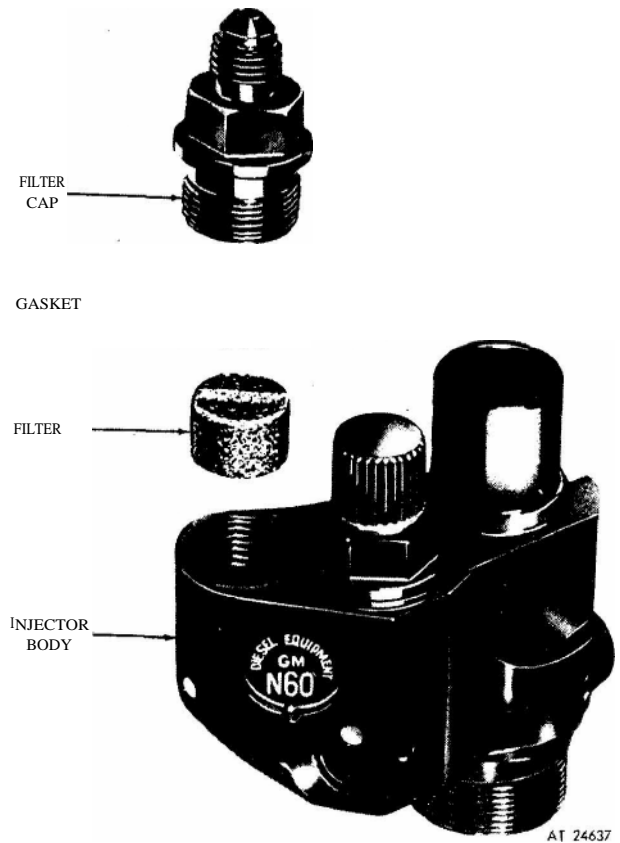

Figure 29. Details of injector filter and cap showing their location relative to injector body.
Use an extremely clean bench to work on and to place the parts when assembling an injector. Study figures 29 through 31 for the proper relative positions of the injector parts then proceed as follows:
1. Insert a new filter, dimple end down, and slotted end up, in each of the fuel cavities in the top of the injector body (fig. 29).